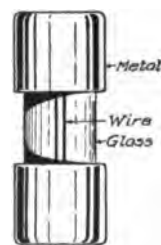

Fig. 211. Typical Fuse
**Fuses.** The lighting circuits of many cars are provided with fuses, designed to protect the battery. These fuses are usually of the enclosed type, consisting of a glass tube with brass caps at each end to which the fusible wire is connected, as shown in Fig. 211. Usually when a fuse "blows", due to excessive current caused by a ground or "short", the wire melts entirely and this will be visible. But at times it will simply melt at the soldered connection and not show any fault. In beginning a test it is well to go over